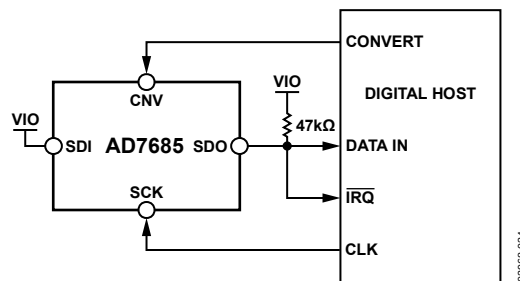
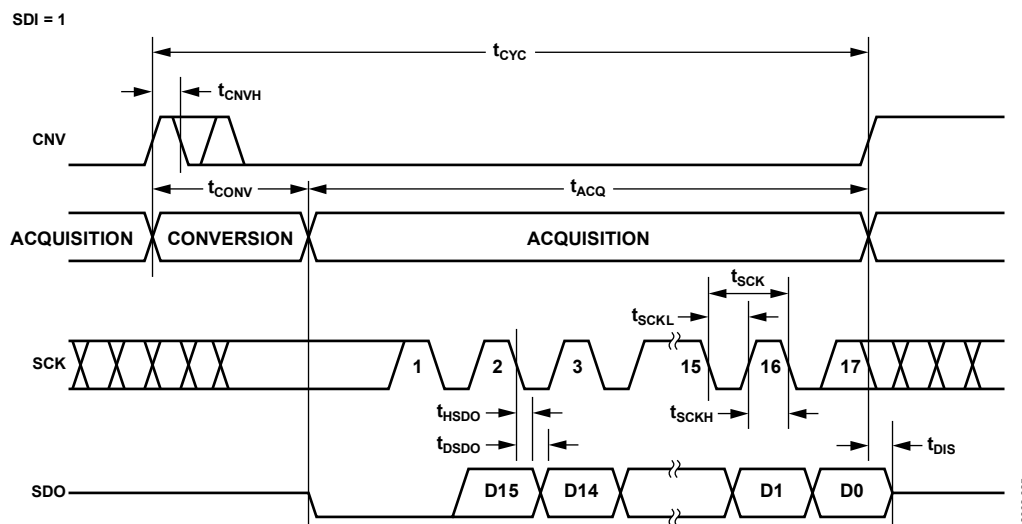
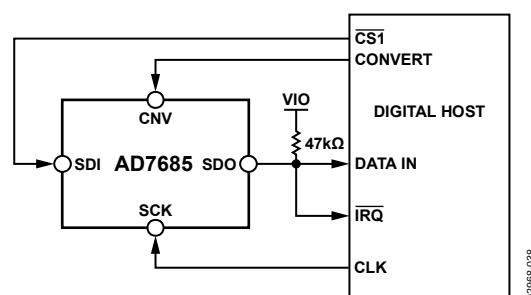
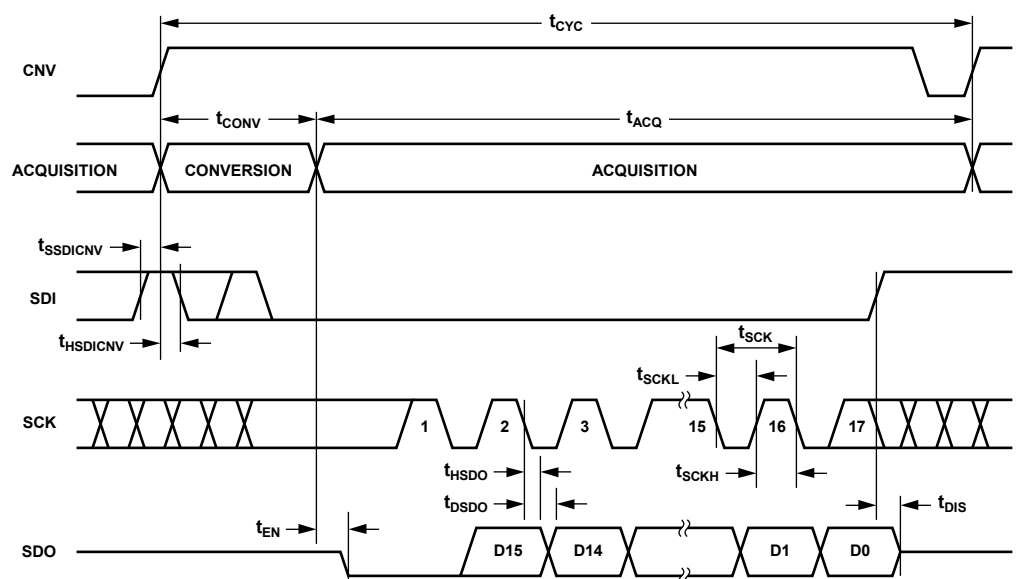

Figure 36. $\overline{\text{CS}}$ Mode 3-Wire with BUSY Indicator Connection Diagram (SDI High)
Figure 37. $\overline{\text{CS}}$ Mode 3-Wire with BUSY Indicator Serial Interface Timing (SDI High)
Figure 40. $\overline{CS}$ Mode 4-Wire with BUSY Indicator Connection Diagram
Figure 41. $\overline{CS}$ Mode 4-Wire with BUSY Indicator Serial Interface Timing
- In the $\overline{\text{CS}}$ mode, if CNV or SDI is low when the ADC conversion ends (see Figure 37 and Figure 41).
The connection diagram is shown in Figure 36, and the corresponding timing is given in Figure 37.
The connection diagram is shown in Figure 40, and the corresponding timing is given in Figure 41.